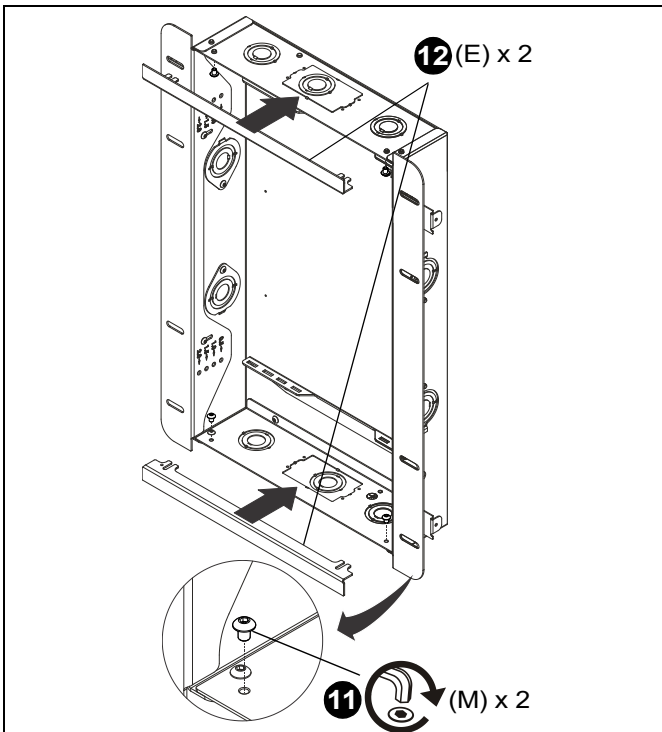

Figure 6
11. Loosely install four #10-24 x 1/4" button head cap screws (M) into open holes in each corner of boxes. (See Figure 6)